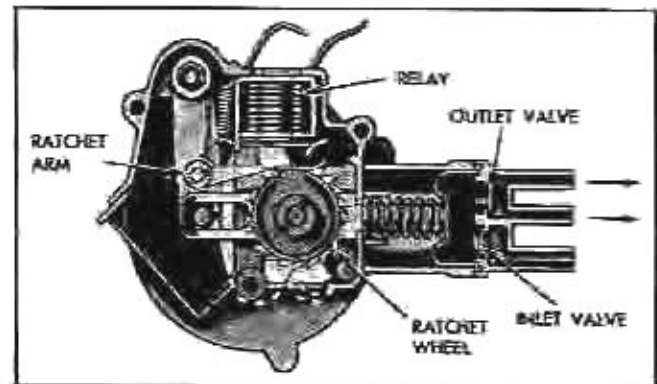
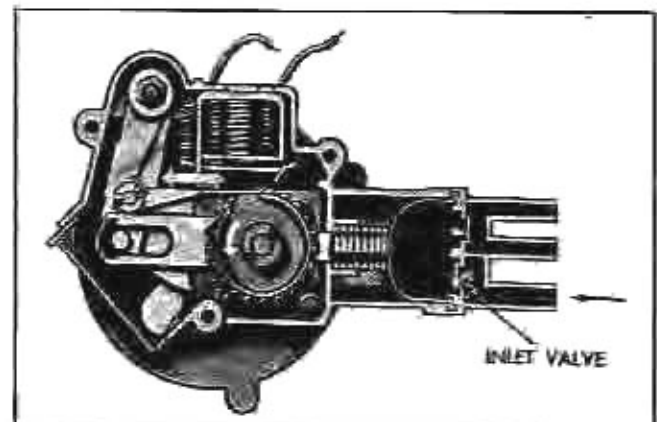

Fig. 11-112 Exhaust Stroke
Fig. 11-113 Suction Stroke
The plunger arm being spring loaded, now moves in a direction toward the bellows and collapses the bellows forcing the water in the bellows out through the outlet valves to the nozzles (exhaust stroke). See Fig. 11-112. At the same time the edge of the plunger arm slot moves up tight against the lever arm pin. As the rotor cam is turned each lobe (4) actuates the lever arm which in turn pulls the plunger arm back compressing the spring. While the plunger arm is being pulled back (suction stroke) water is drawn in through the inlet valve (Fig. 11-113). As the high point of each lobe is passed, the plunger arm spring pulls the plunger arm toward the bellows. This collapses the bellows and forces water out through the outlet valve (exhaust stroke).